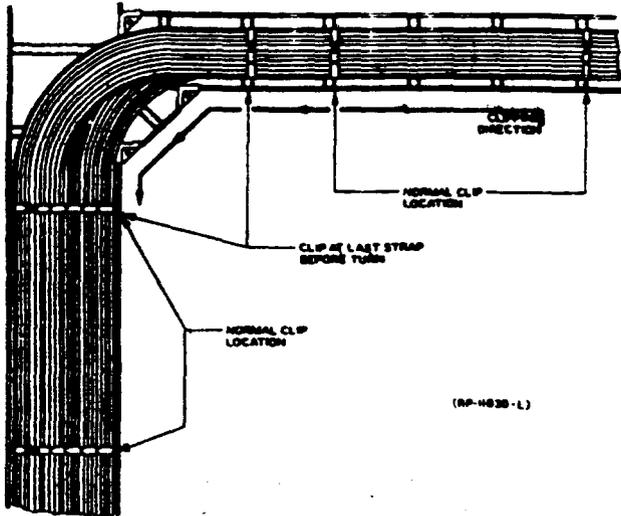

FIG. 4 CLIPS AT TURNS IN SAME PLANE ON HORIZONTAL RESTING RUN (PAR. 3.32)
3.32 On turns in the same plane, place a full set of clips at the cross strap adjacent to the start of, but so as not to include, the bend in the cables. See Figure 4.